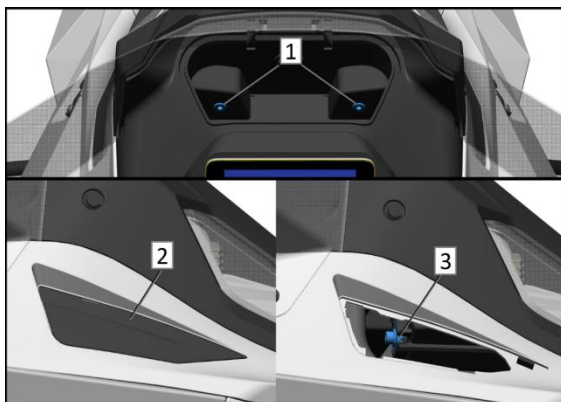

Fig. 7
4. Insert a 4mm hexagon into the left opening of the glove box (position 1, Figure 7), and feel for the adjusting screw of the left headlamp.